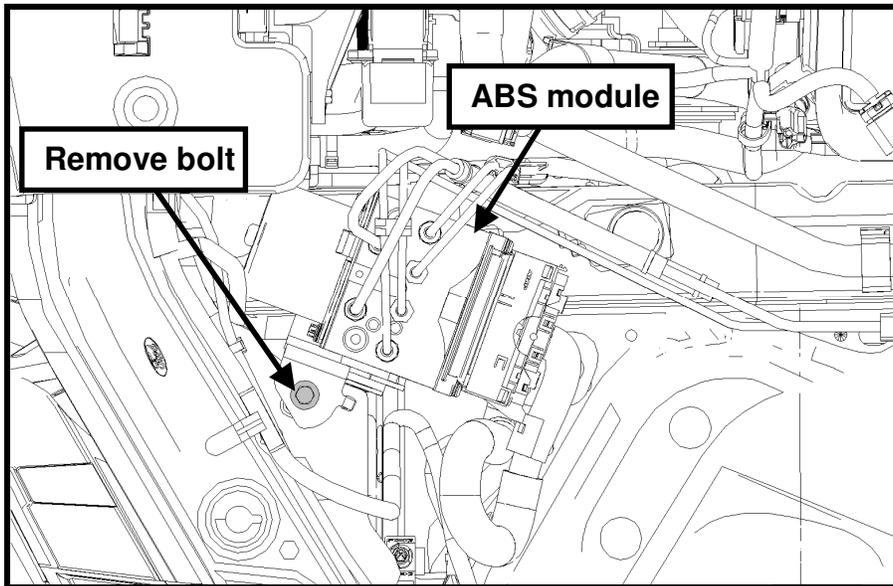

Fig. 9
**STEP 6:** Locate the ABS module bracket and remove the bolt shown below (Fig. 9).